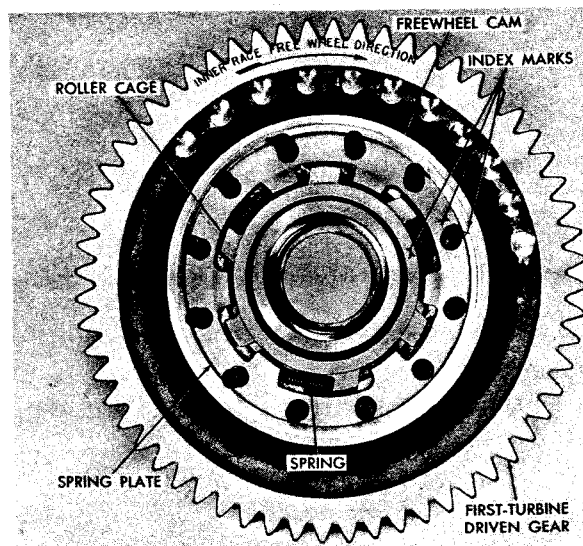

Fig. VI-13. Freewheel clutch installed in first-turbine driven gear (in units with S/N 152 and above)
(6) Install the freewheel cam with rollers in place onto the first-turbine driven gear (fig. VI-13). Make sure all bolt heads are in place within the lip on the collector by checking to see that the bolts cannot be rotated.
(7) Remove the rubber band used to retain the bolts and install the spring plate and three springs, aligning the index marks and positioning the plate as shown in fig. VI-13.
(8) Install second-turbine driven gear 3 (B, foldout 4) onto freewheel cam 13 and align the bolt holes. Press second-turbine driven gear 3 into first-turbine driven gear 16 to seat bearing 4 in the bore of the first-turbine driven gear.
(9) Make sure the bolts are still in place so they will not rotate and install twelve nuts 2. Tighten the nuts evenly to position second-turbine driven gear 3 against spring plate 10.
(10) Turn the assembly over and install spacer 17 onto the second-turbine driven gear shaft. Press ball bearing 18 onto second-turbine driven gear 3 and into first-turbine driven gear 16.
(11) Install spacer 19 and press ball bearing 20 onto the second-turbine driven gear shaft.